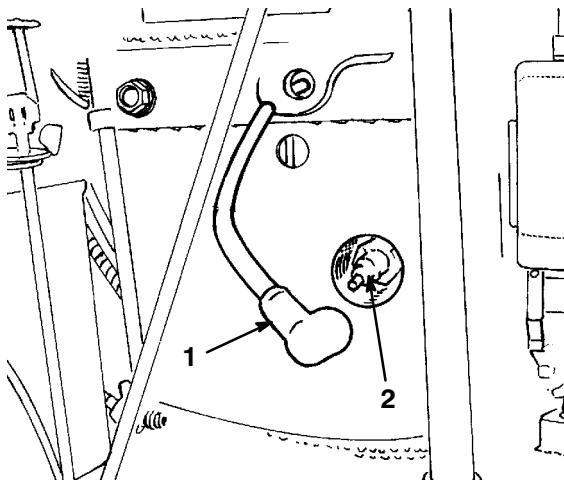

Figure 15
1. Remove the wire from the spark plug (Fig. 15).
2. Pull the wire off the spark plug (Fig. 15).
3. Push the wire(s) onto the spark plug(s) (Fig. 15).